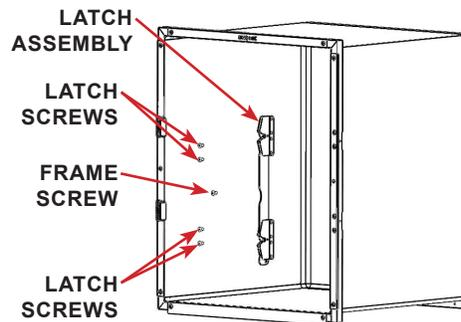

FIGURE 2.23 - Single Door Cage
STEP 12: SD Cage - Remove the screws (4 ea) holding the latch assembly, and the center frame screw from the previous set cage. See FIGURE 2.23